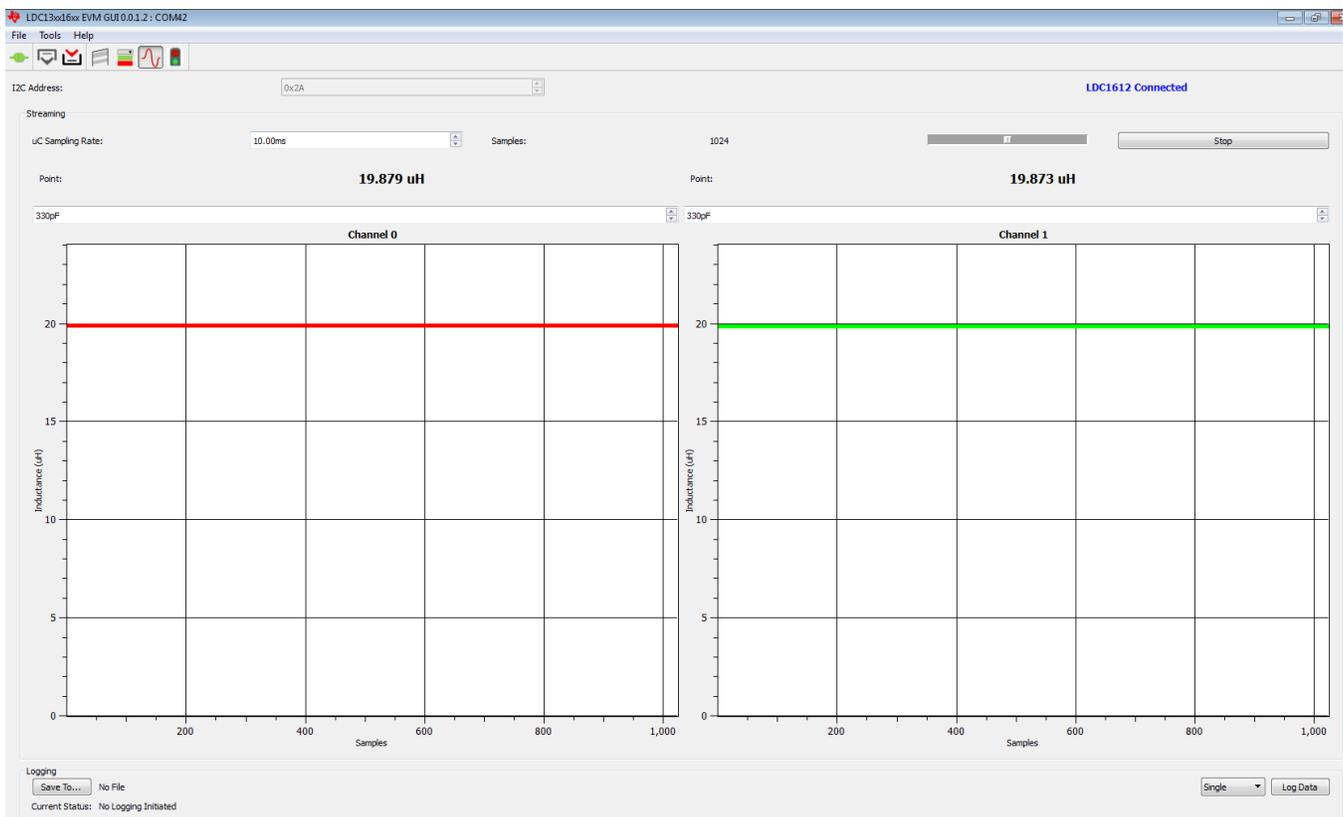

Figure 7. Streaming Data from Two Channels
- The data will update in the graph shown in Figure 7: Zoom into each tab if needed by right clicking on it and selecting "Zoom to".